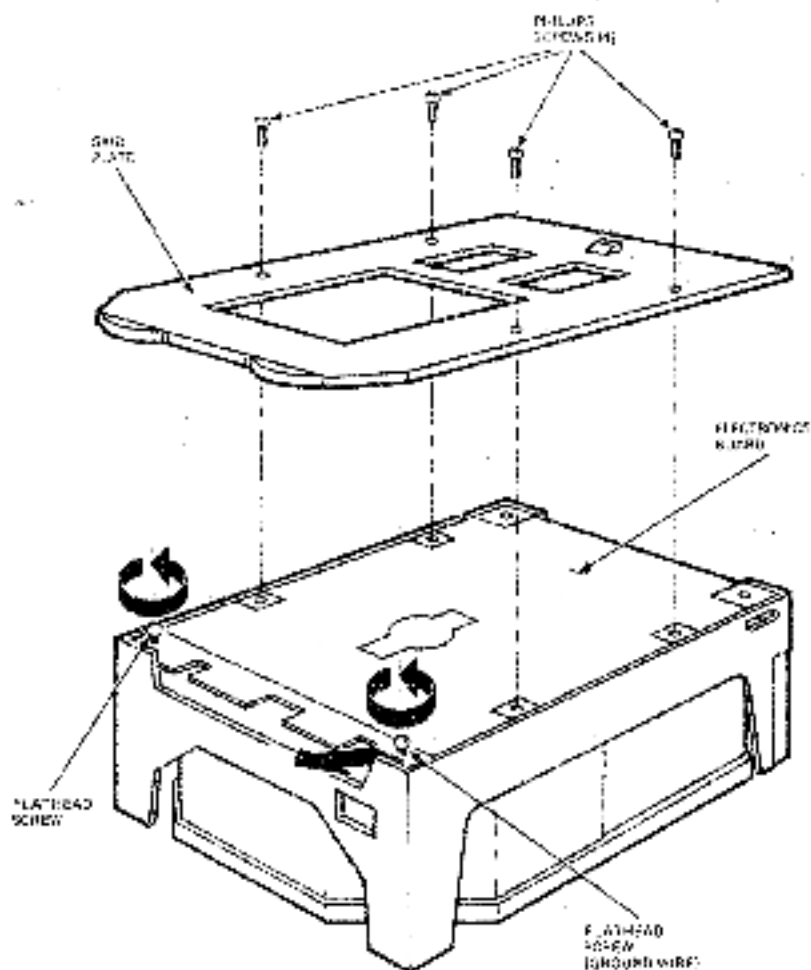

Figure 4-6 Removing the Slide Plate
1. Place the drive upside down on a flat work surface and remove the four philips screws holding the slide plate and ground clip (Figure 4-6). Set the slide plate aside.
2. Loosen the two flathead screws holding the electronics board (Figure 4-6). Slide the ground wire out.